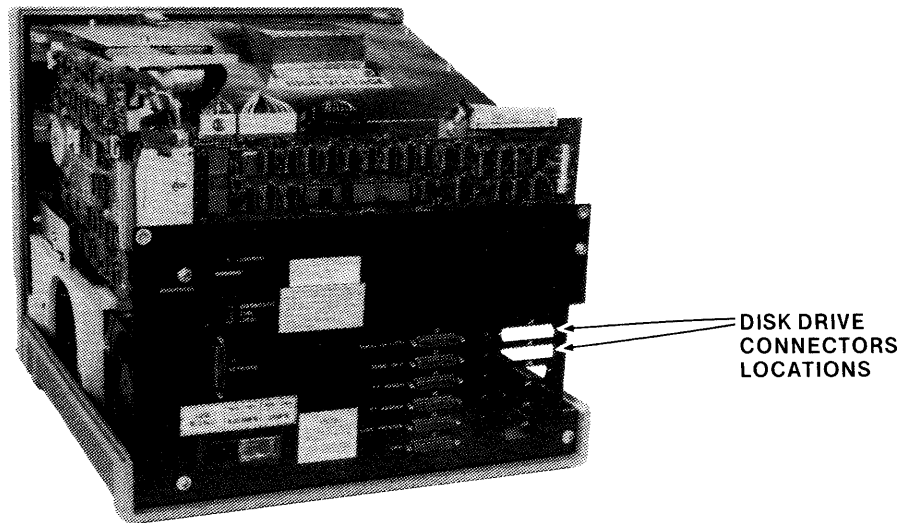

Figure 4-7. MDS-220 Rear Chassis Panel Disk Drive Connector Locations 559-61
7. Install the two connectors on the disk control cable in the holes marked J8 and J9 on the back panel as shown in Figure 4-7. Put the connector for drives 0 and 1 in the top hole and drives 2 and 3 in the bottom hole. Attach the connectors with hardware supplied with the controller.